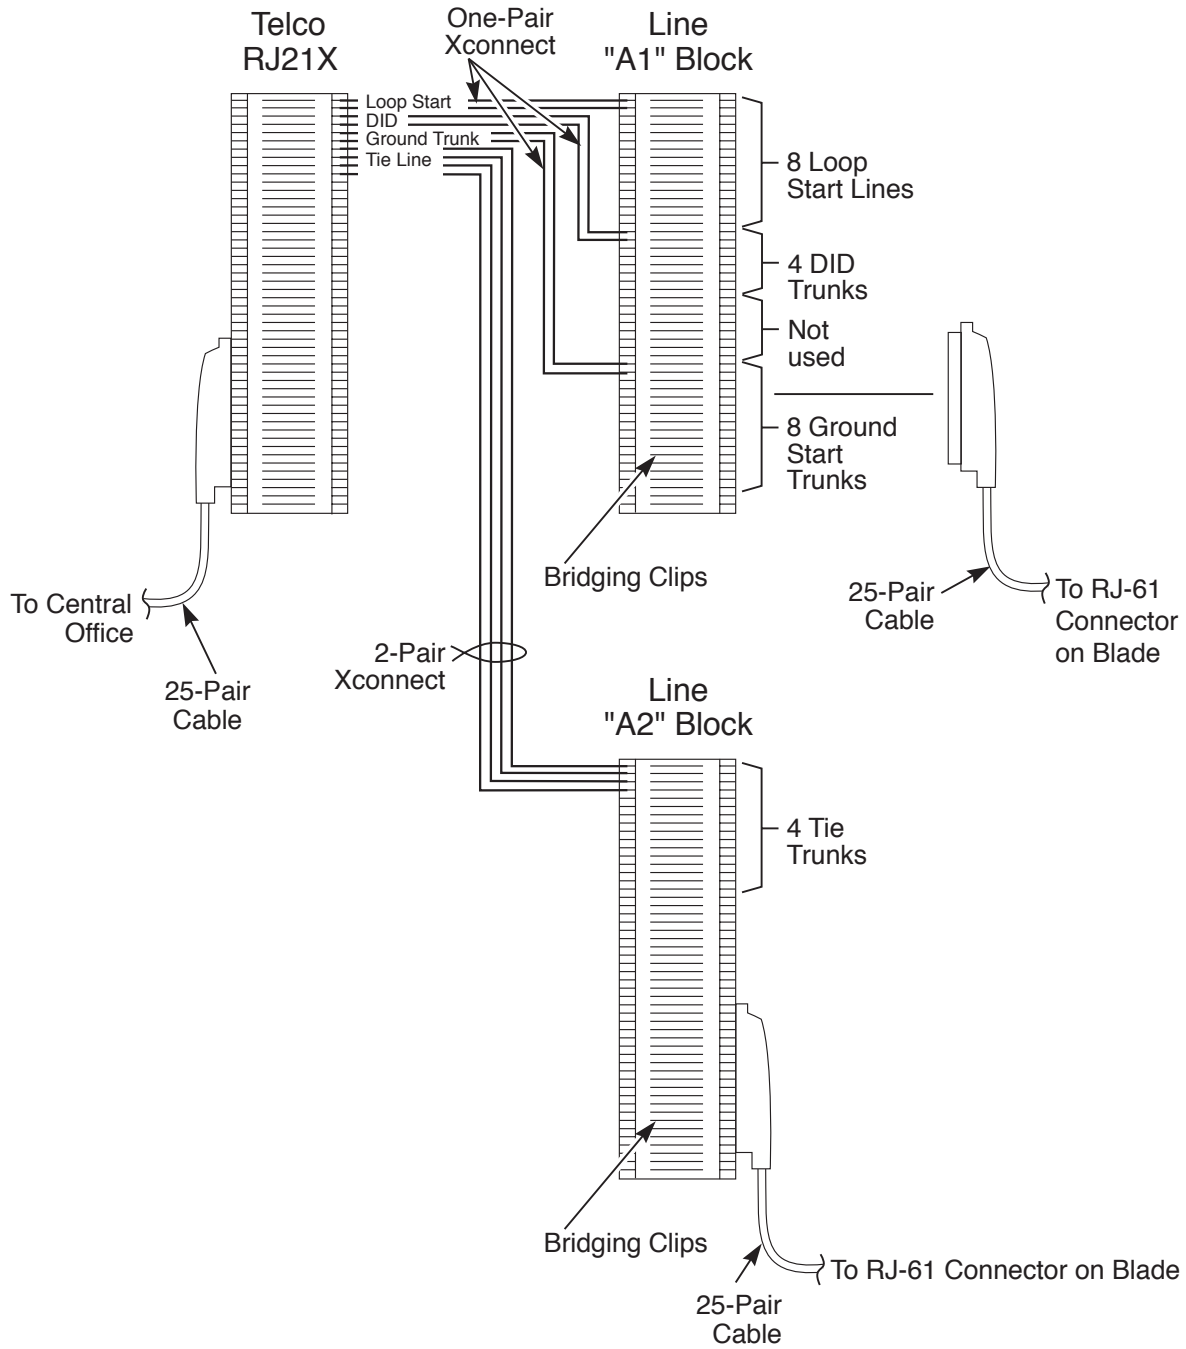

Figure 3-6: TYPICAL TRUNK/LINE INSTALLATION
3.8.2 Installing Ground Start Trunks/Loop Start Lines (Figure 3-6)
1. Punch down one pair cross-connect to the tip and ring leads for each line on the telco RJ21X CPE (customer) side of the block (Figure 3-6).
2. Punch down the other end of the cross-connect to the line (A) block (in groups of 4 or 8 lines of the same line type).
3. Punch down a 25-pair cable to the opposite side of the line (A) block.